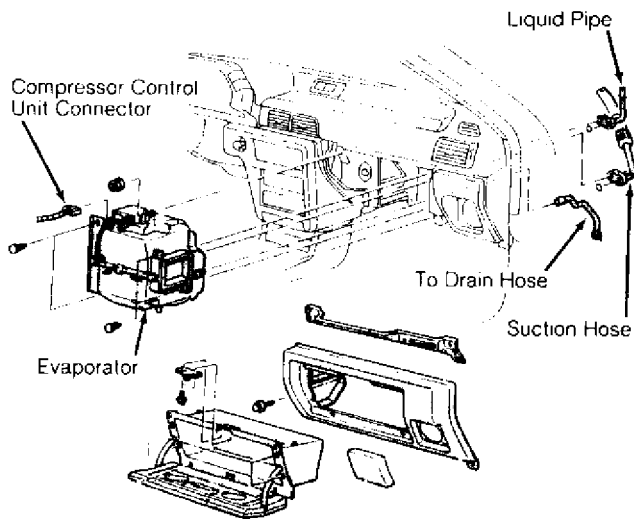

Fig. 8: Exploded View of Evaporator Assembly
1) Remove glove box. Discharge A/C system using approved refrigerant recovery/recycling equipment. Remove refrigerant line connections and "O" rings from evaporator. See Fig. 8. Disconnect suction hose connection. Remove dash insert and lap heater duct.